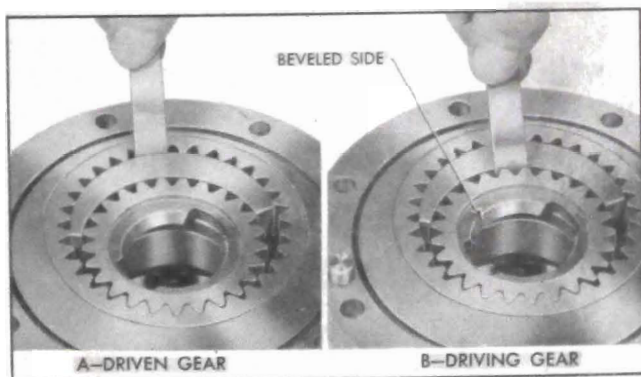

Figure 5-62—Checking Clearance Between Crescent and Gears
7. Insert feeler gauge between crescent and driven gear to check clearance, which should be .005" to .009" on front pump and .0045" to .007" on rear pump. See figure 5-62, view A.
8. Insert feeler gauge between crescent and driving gear to check clearance, which should be .010" to .016" on front pump and .006" to .012" on rear pump. See figure 5-62, view B.
3. Lubricate and install gears in front pump body. The driving gear must be installed with the beveled side outward so that this side will be against the cover when pump is installed. See figure 5-62. *Reversing this gear in pump body will result in severe damage to the transmission.*